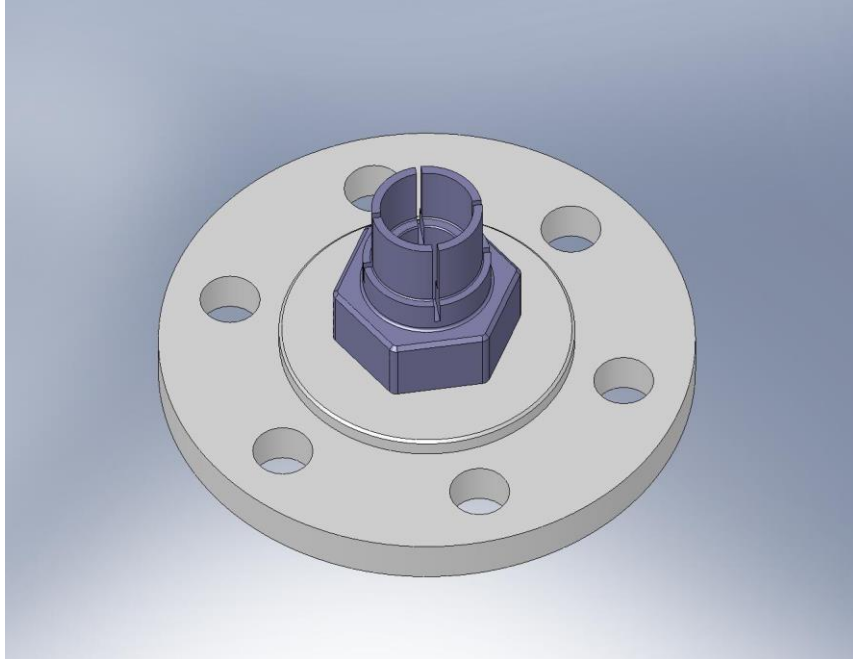

Figure 4.7. Flexure Mount in Flexure Lower Plate. Relative angle between these parts is not important.
- Insert **Flexure Mount** (D071103) through bottom of **Flexure Lower Plate** (D071105), as shown in Figure 4.7.